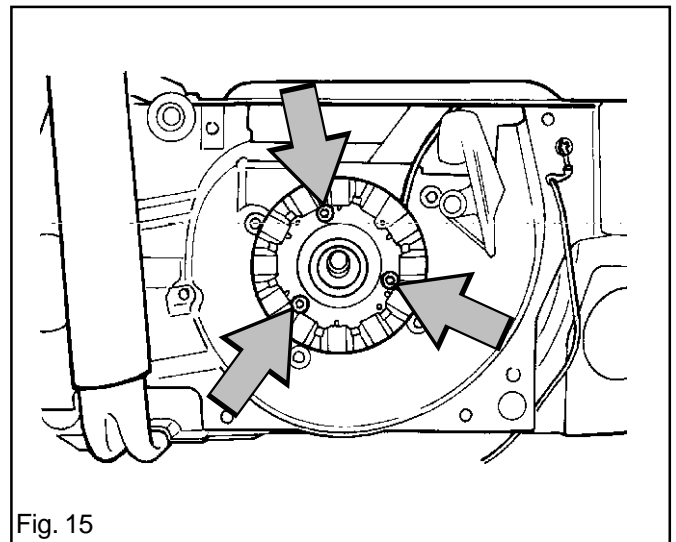

Fig. 15
3. Remove the generator by unscrewing the three bolts. See fig. 15.